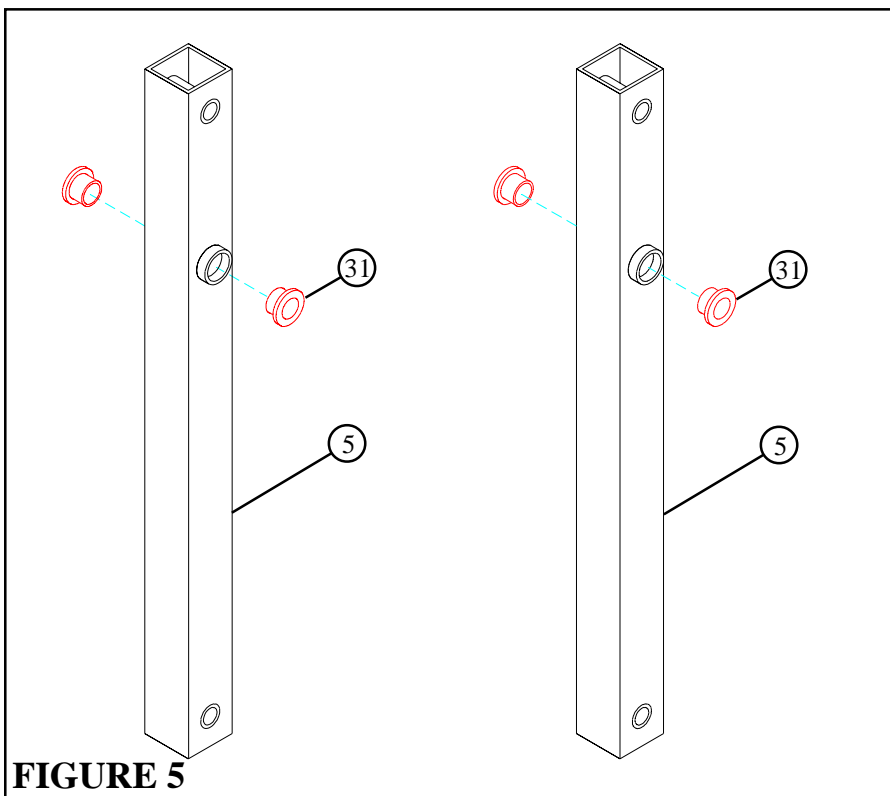

FIGURE 5
- Insert two 3/4" FLANGE BEARINGS into each of the two LEVER TUBES (5) as shown in FIGURE 5.